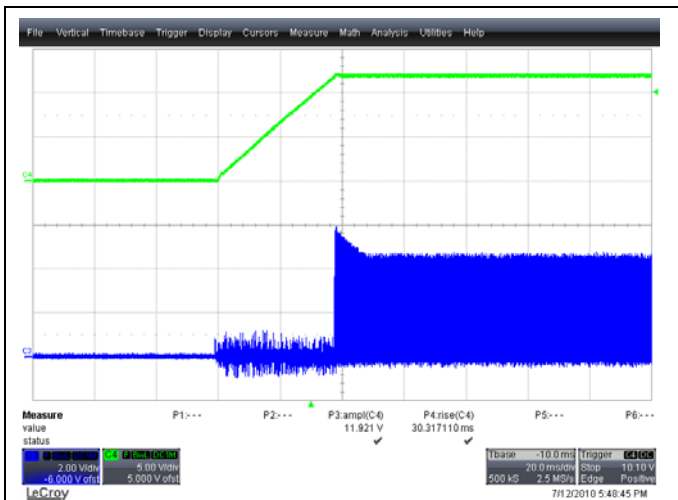

Figure 16 - 40ms softstart, 48VDC, 8A load, with synchronous rectifiers disabled during softstart
B. Softstart ramp and SR blanking: Figure 16 and Figure 17 show the startup sequence with the synchronous rectifiers enabled/disabled with a 20ms and 40ms softstart ramp respectively.